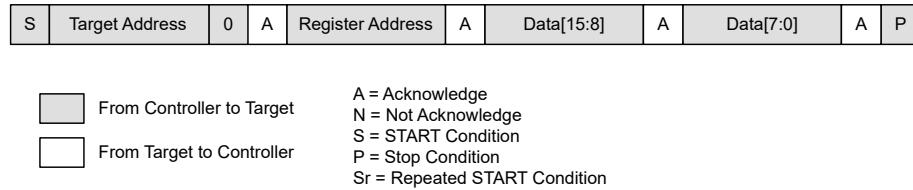

図 7-21. Write Single Register
7.5.1.5.1 Writing A Single Register (図 7-21)
図 7-21 shows a diagram of this protocol. Steps for this protocol are: